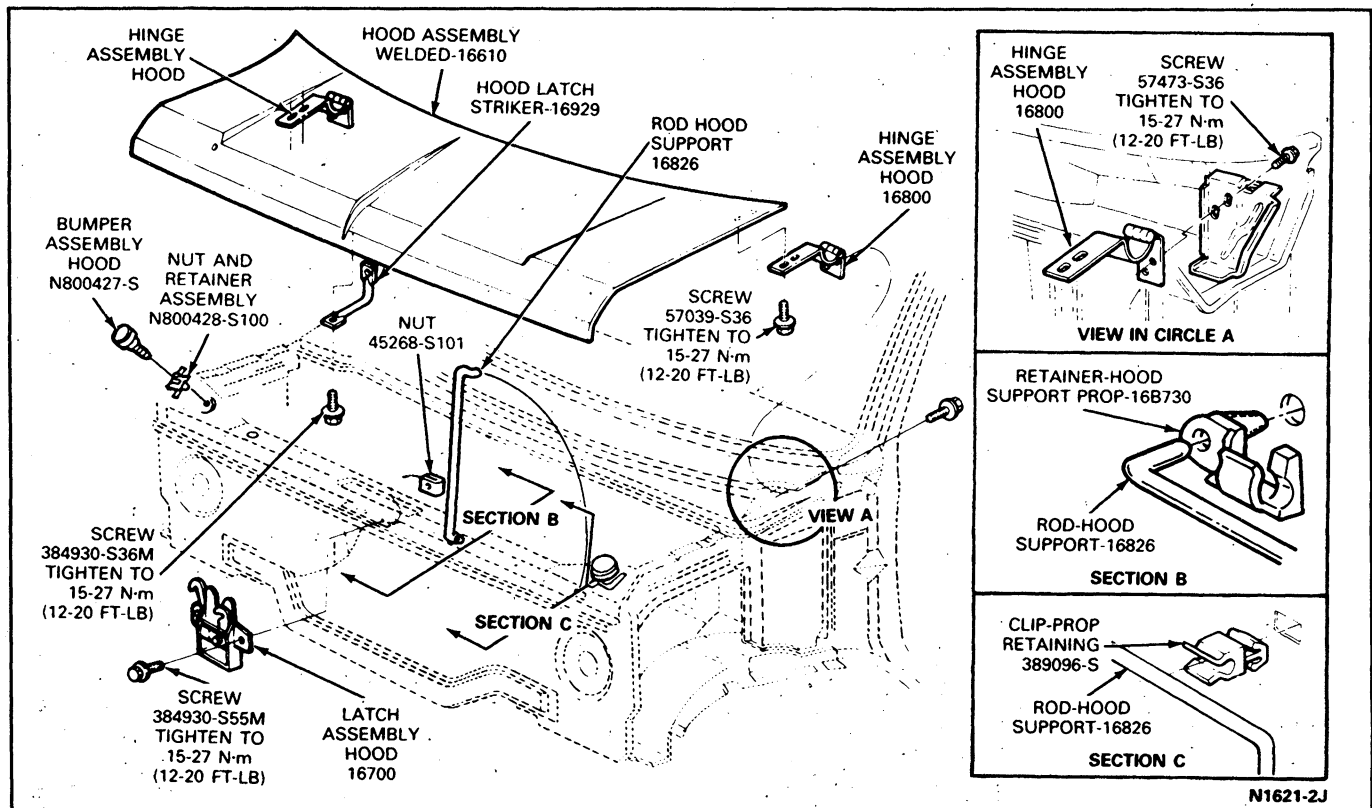

FIG. 2 E-150—E-350 Hood Installation—Steel
The hood can be adjusted fore and aft and up and down to obtain the proper clearance. To adjust the hood, loosen the hood-to-hinge attachments (fore-or-aft adjustment) or the hinge-to-cowl attachments (up-or-down adjustment) until they are snug. Then, position the hood as required, and tighten the attachments (Fig. 2). After the hood has been adjusted, check the hood latch adjustment. Adjust the hood latch if required. Refer to Section 44-31, Hood Latch.
- Open the hood. Retain in the open position (Fig. 2).